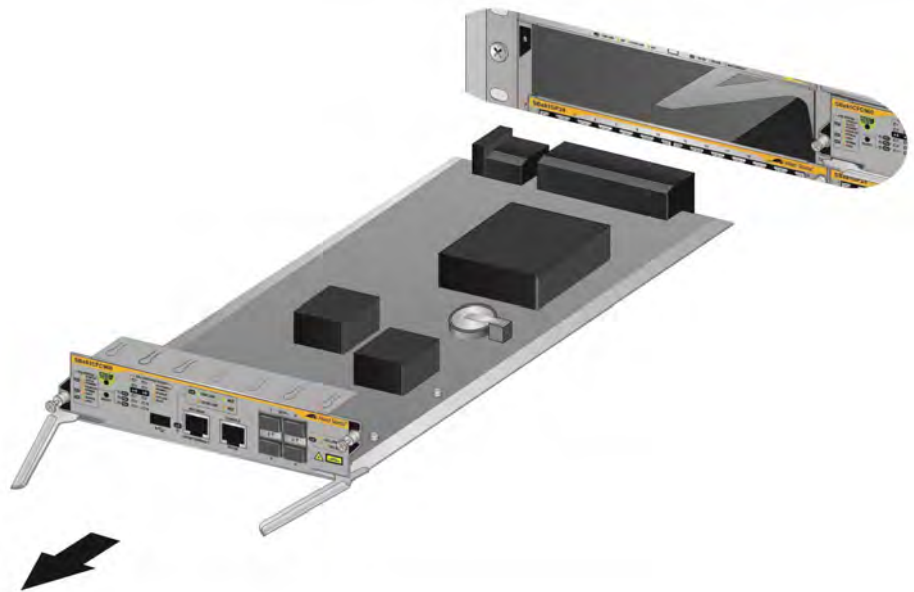

Figure 184. Removing the AT-SBx81CFC960 Controller Card
5. Carefully remove the card from the chassis. Refer to Figure 184 on page 295.